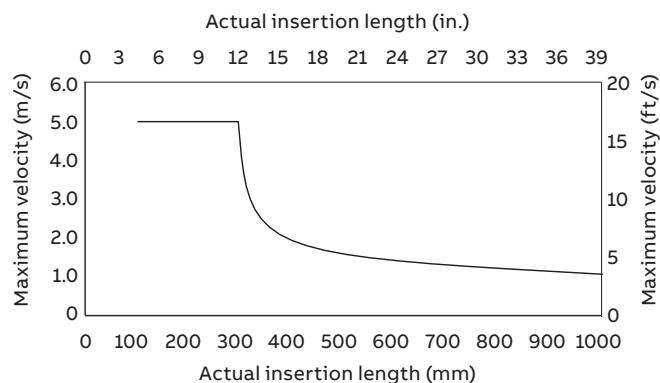

Figure 27 Maximum allowable velocity for different insertion lengths
The maximum velocity depends upon the actual insertion length. Typical insertion lengths are 0.125 and 0.5 x pipe diameter. Figure 27 is a guide* to the maximum allowable velocity for different insertion lengths.
* Figure 27 is intended as a guide only. Factors that influence the maximum insertion length into the pipe include: insertion sensor mounting components (for example, standoffs, bushes and valves) pipeline vibration, fluid vibration and pump noise.